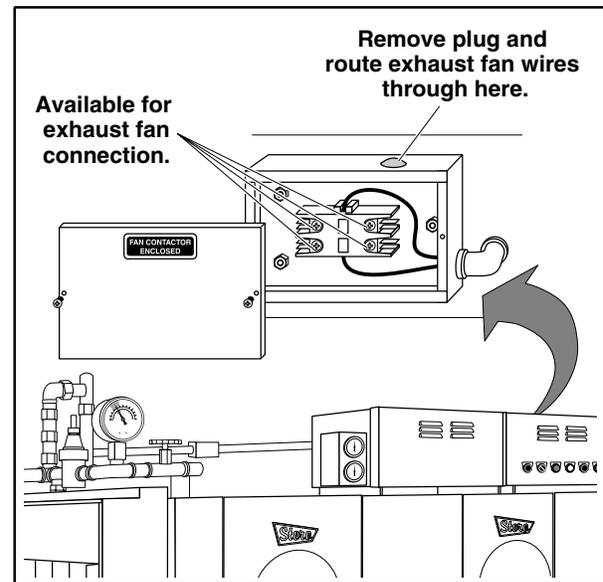

Figure 18: Exhaust Fan Electrical Connection
The exhaust fan is connected to an electrical box located on the back of the Main Electrical Control Box, labeled as FAN CONTACTOR ENCLOSED (Figure 18). Connect the electrical connections as follows:
8. Remove the two (2) screws securing the Fan Contactor cover plate. Retain for reinstallation.
12. Connect the fan electrical wires to the contactor terminals (Figure 18).